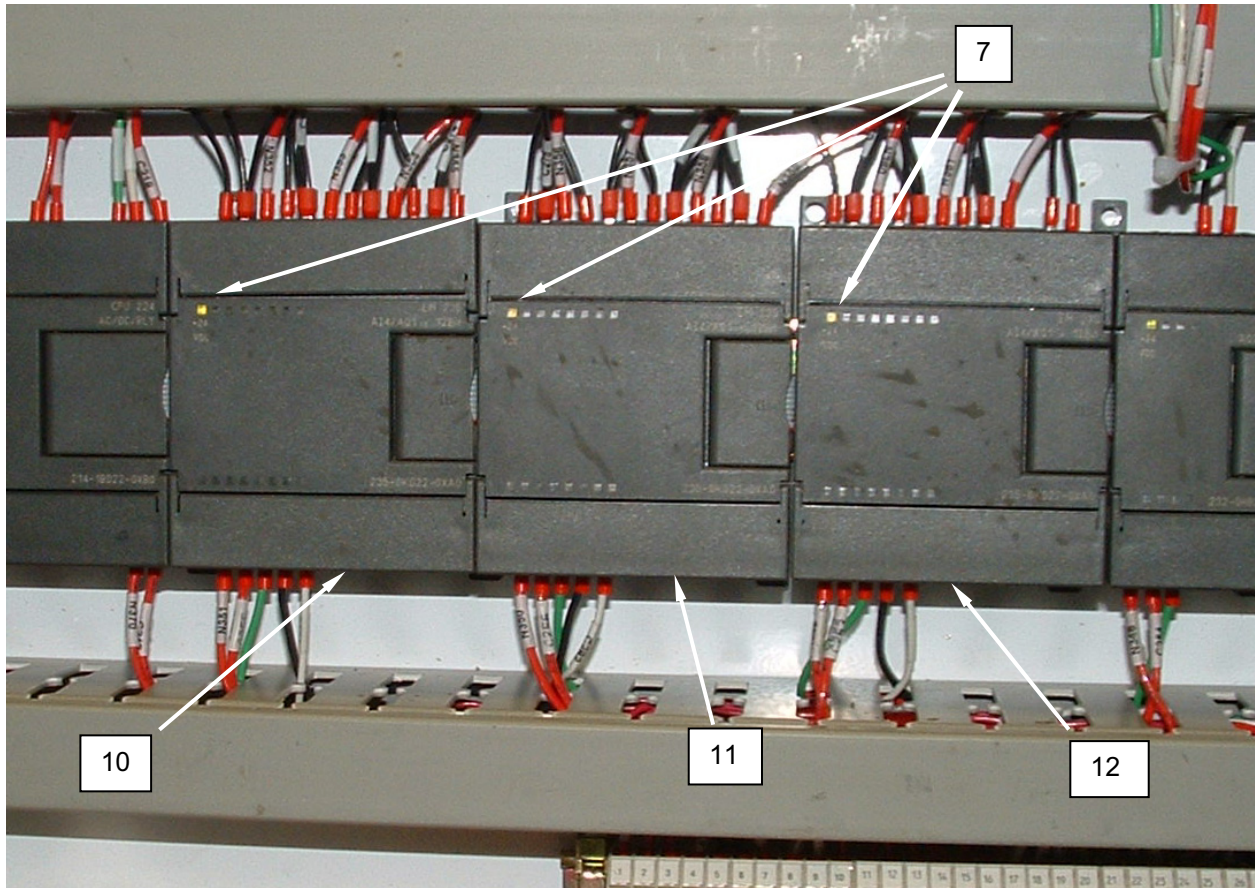

Figure 10. Test Analog Input/Output Module.
2. Ensure PLC is ON, and check the power indicator LED (**Figure 10, Item 7**) on the Analog Output Module. If the power indicator light is off, check the power indicator light on the Analog Input/Output module adjacent. If the power indicator light on the adjacent module is ON, replace the Analog Output module.
3. If the power indicator LED (**Figure 10, Item 7**) in ON, check for the following sensor failures:
P-3 Flow Transmitter	Module No. 1 (Figure 10, Item 10)
P-1 Discharge Pressure	Module No. 2 (Figure 10, Item 11)
Nanofilter Inlet Pressure	Module No. 3 (Figure 10, Item 12)